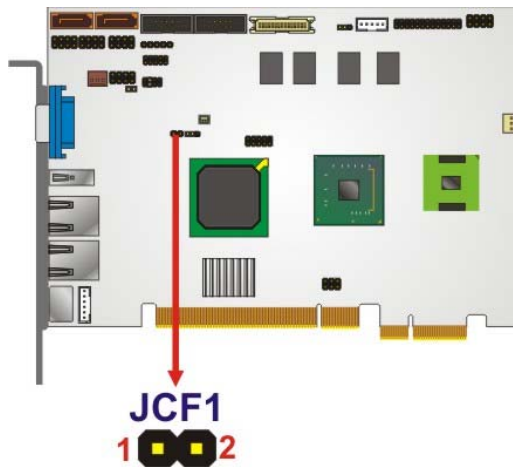

Figure 5-5: CF Card Setup Jumper Location
- Jumper Location: See Figure 5-5
The CF Card Setup jumper location is shown in **Figure 5-5**.